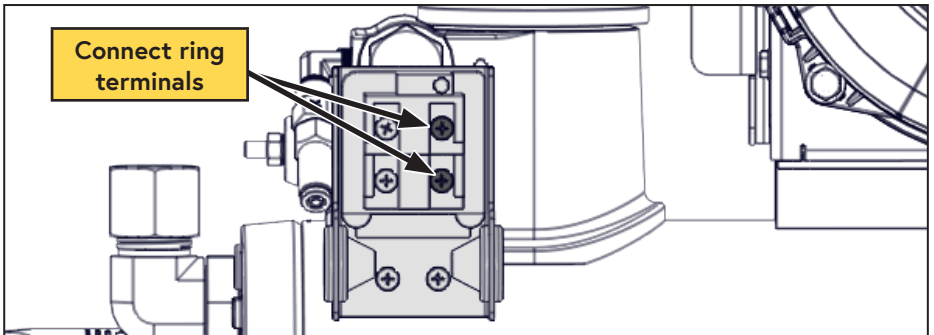

Figure 79 — Connect pressure switch
- Remove the cover from the WHASP Tank pressure switch and connect the 2 ring terminals from the control module to the pressure switch on the WHASP Tank (not polarity dependent) (Figure 79).